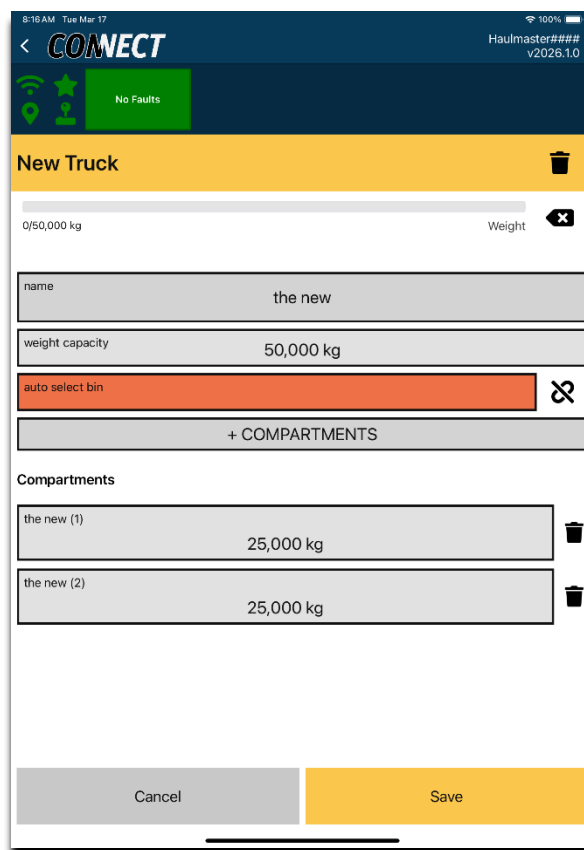

Figure 141 Adding Compartments
10. A compartment will be added, as shown in fig 141.